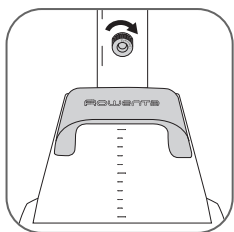

fig. 4
4. Screw the pole fastening screw back in as far as it will go so that the pole is firmly fixed to the base. (fig. 4).